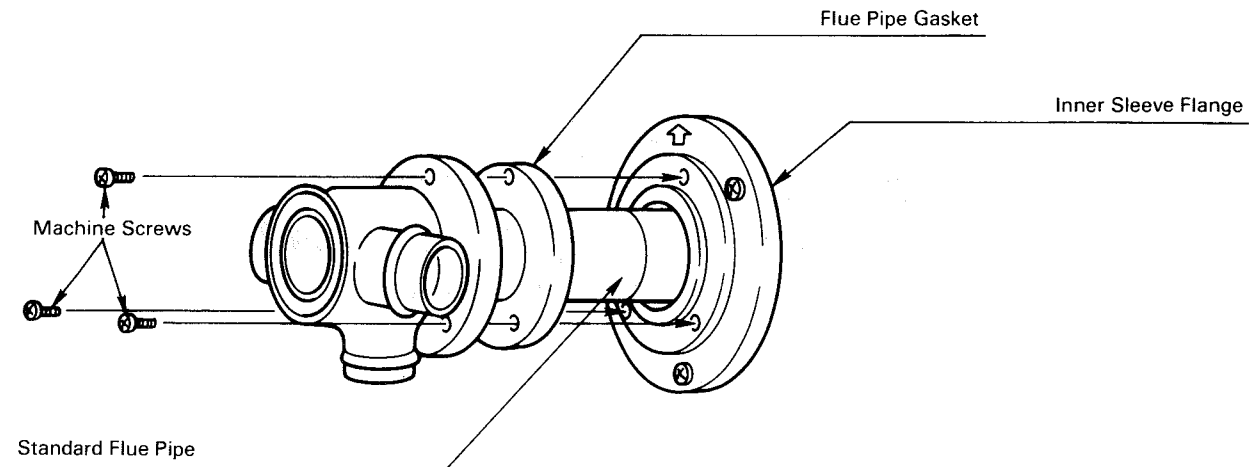

Fig 9
6. From inside the room, insert the standard flue pipe with gasket attached through the wall sleeve. Secure the standard flue pipe to the inner sleeve flange with the three machine screws provided with the heater (See Fig. 9).